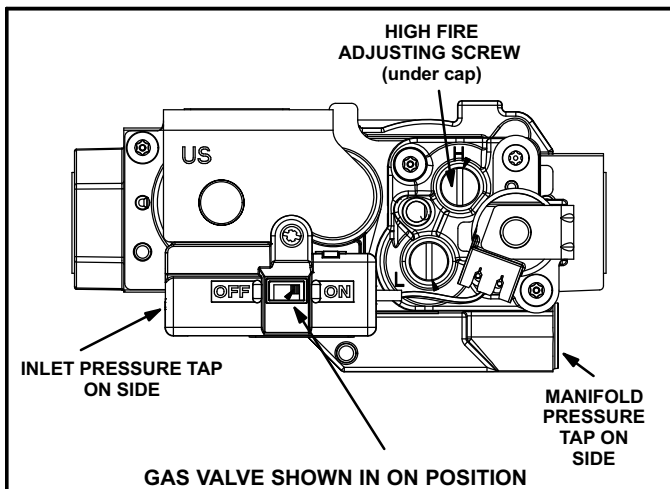

FIGURE 15
All units use a two-stage gas valve manufactured by Honeywell (figure 15). The valve is internally redundant to assure safety shut-off. If the gas valve must be replaced, the same type valve must be used.
**SL280UHV(X) units are equipped with a hot surface ignition system. Do not attempt to light manually.**
- 6 - Turn switch on gas valve to **OFF**. Do not force. See figure 15.
- 8 - Move switch on gas valve to **ON**. Do not force. See figure 15.
When testing supply gas pressure, connect test gauge to inlet pressure tap on the gas valve See figure 15. Check gas line pressure with unit firing at maximum rate. Low pressure may result in erratic operation or underfire. High pressure can result in permanent damage to gas valve or overfire. See table 16 for operating pressure at unit gas connection (line).
- 1 - Connect test gauge to manifold pressure tap (figure 15) on gas valve.
- 4 - If necessary, make adjustments. Figure 15 shows location of high fire adjustment screw.
- 1 - Connect a test gauge to manifold pressure tap on gas valve. See figure 15 for tap location. Start unit and allow 5 minutes for unit to reach steady state.